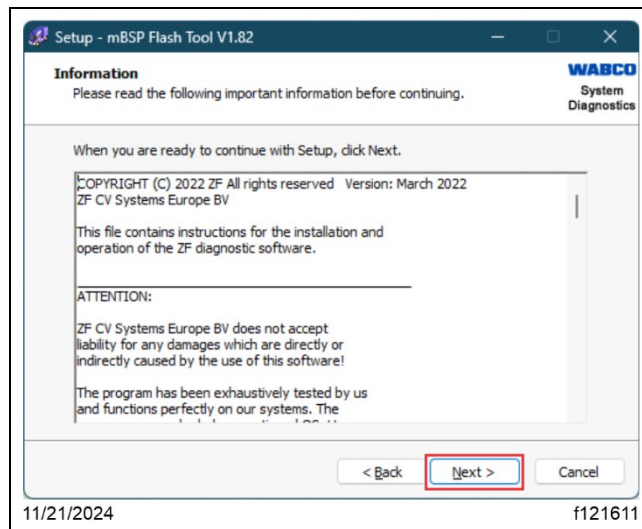

Fig. 35, Reading the Important Information
7.7. On the 'Information' screen, read the important information, then select 'Next.' See Fig. 35.